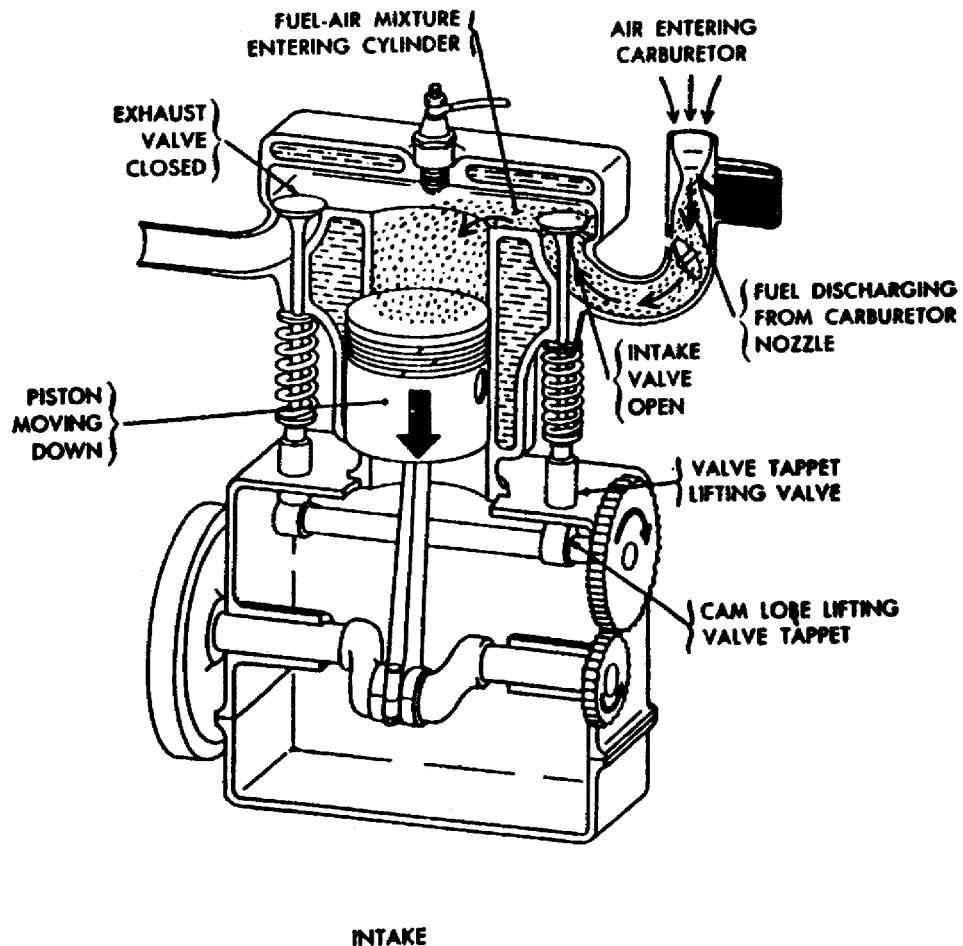

Figure 1-7. Intake Stroke.
a. Intake stroke. The piston moves downward and the intake valve opens. This downward movement of the piston produces a partial void, or vacuum, in the cylinder, and air rushes into the cylinder past the opened intake valve. This has somewhat the same effect as drinking through a straw: partial vacuum is produced in the mouth and the liquid moves up through the straw to fill the vacuum (Figure 1-7). In the engine, the inrushing air passes through the carburetor before it enters the cylinder. The carburetor charges the air with gasoline vapor to produce a combustible mixture.